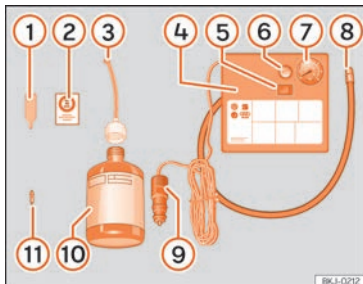

Fig. 39 Standard representation: anti-puncture kit contents.
The anti-puncture kit is located underneath the floor covering in the luggage compartment. It includes the following components » **Fig. 39:**
- Unscrew the tyre valve cap and insert. Use the » **Fig. 39** ① tool to remove the insert. Place it on a clean surface.
- Shake the tyre sealant bottle vigorously » **Fig. 39** ⑩.
- Screw the inflator tube » **Fig. 39** ③ into the sealant bottle. The bottle's seal will break automatically.
- Remove the lid from the filling tube » **Fig. 39** ③ and screw the open end of the tube into the tyre valve.
- Place the insert back into the tyre valve using the tool » **Fig. 39** ①.
- Screw the compressor tyre inflator tube » **Fig. 39** ⑧ into the tyre valve.
- Check that the air bleed screw is closed » **Fig. 39** ⑥.
- Insert the connector » **Fig. 39** ⑨ into the vehicle's 12-volt socket » **page 153**.
- Turn the air compressor on with the ON/OFF switch » **Fig. 39** ⑤.
- Attach the sticker »» Fig. 39 ② to the instrument cluster, within the driver's visual field.
Screw the inflator tube »» Fig. 39 ⑤ again and check the pressure on the gauge ⑥.